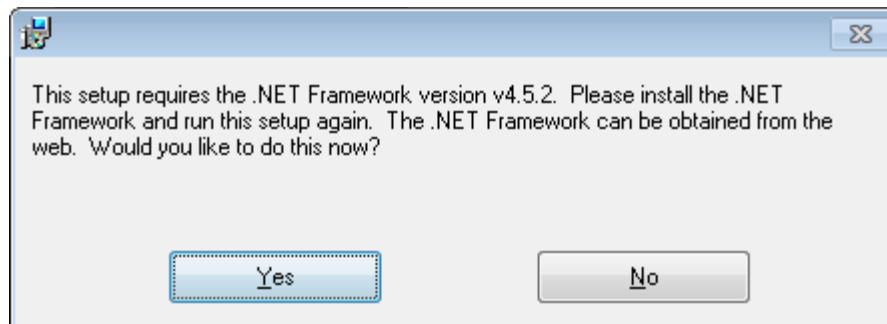
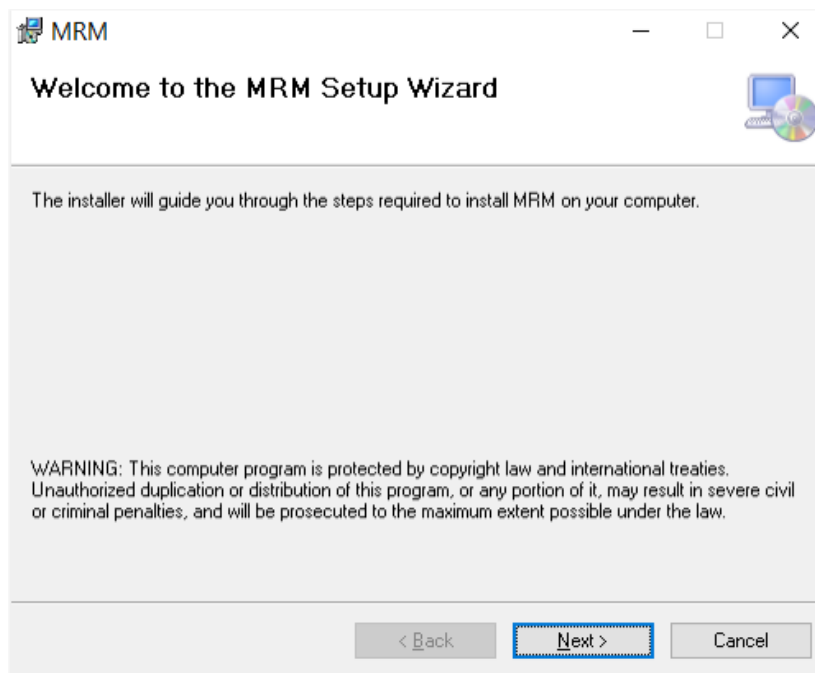
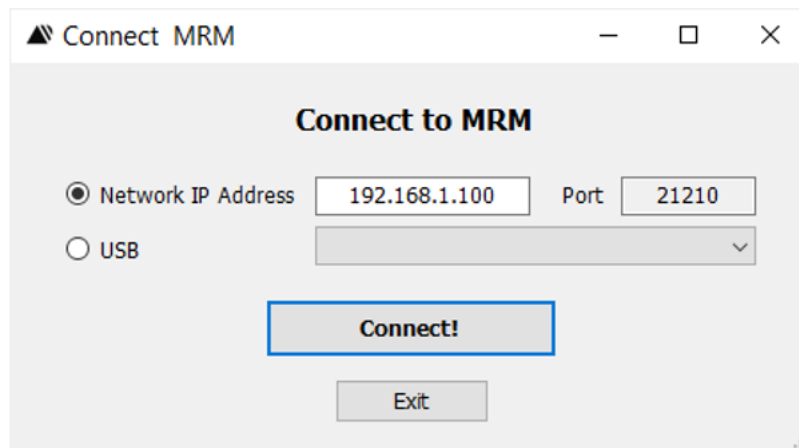

Fig. 1A: Message warning that you will need to download a newer version of .NET Framework
Fig. 1B: Initial installation screen for the MRM software
Fig. 7: MRM connect screen prior to USB hookup
If a screen similar to the one shown in **Figure 1A** appears, then you will need to download a newer version of .NET Framework from the Microsoft website. See **Appendix A** for details. If not, then you should see the box shown in **Figure 1B**.
3. On screen, you should see the box shown in **Figure 1B**.
1. Double click on the MRM icon. The screen shown below in **Figure 7** will appear. Depending on the version of your Windows OS, the screen shown in **Figure 1A** may appear instead. If it does please follow the instructions in **Appendix A**.